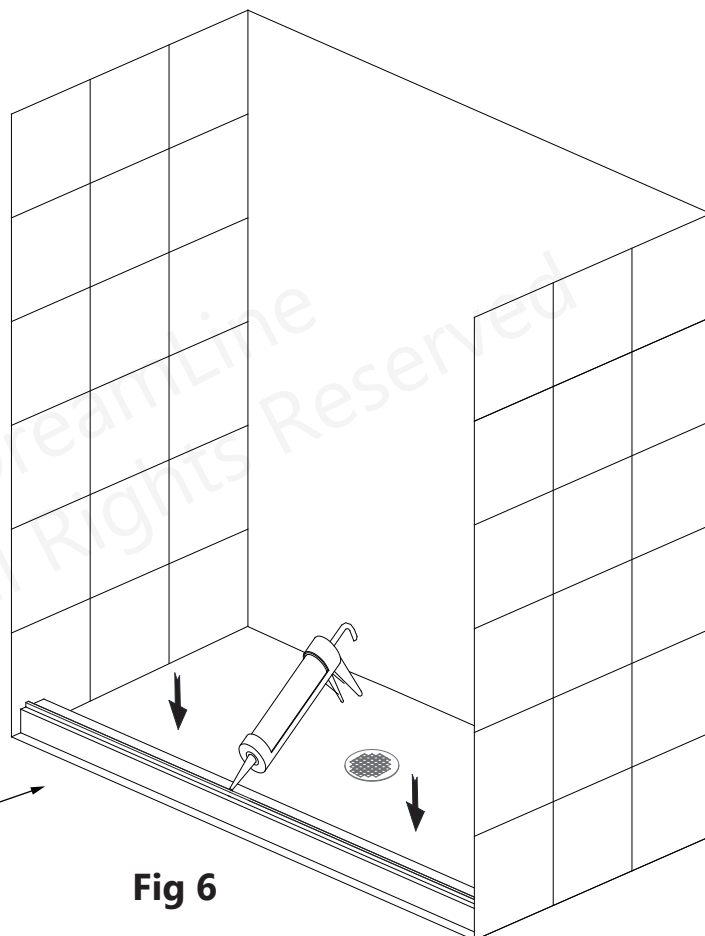

Fig 6
6. Run a bead of silicone along the inside edge of the **Bottom Rail (#21)**. **(Fig 6)**